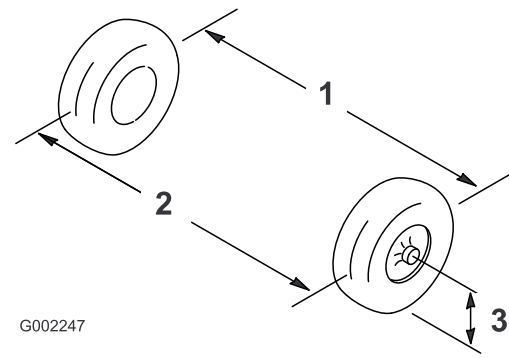

Figure 88
2. Measure the distance between of the front tires at the axle height at the front and rear of the front tires (Figure 88).